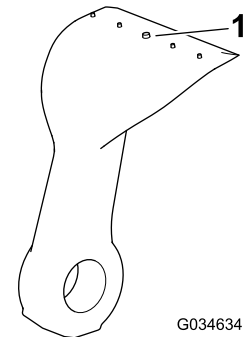

Figure 78
5. Inspect each blade for excessive wear using the wear line (Figure 78). When a blade is worn down to the wear line, replace the blade.